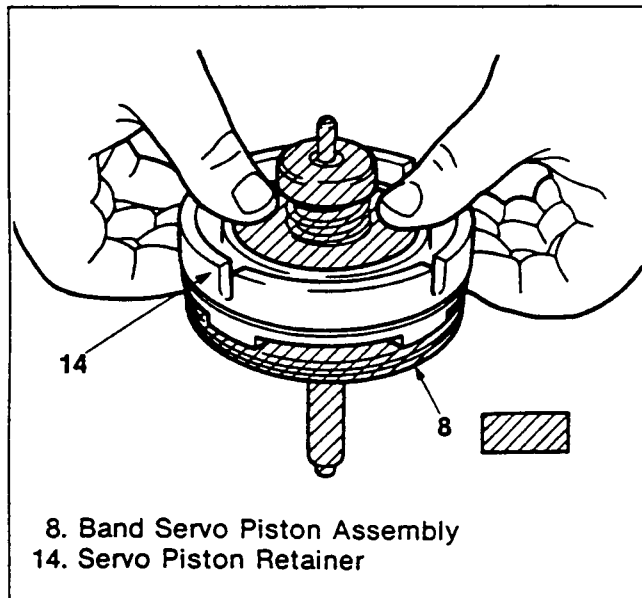

Figure 203. Band Servo Piston Removal
Band Servo Piston Assembly (Figures 203, 204, 205, 206, 207, 208 and 209)
1. Using both hands, push the band servo piston assembly forward and remove it from the servo piston retainer (figure 203).